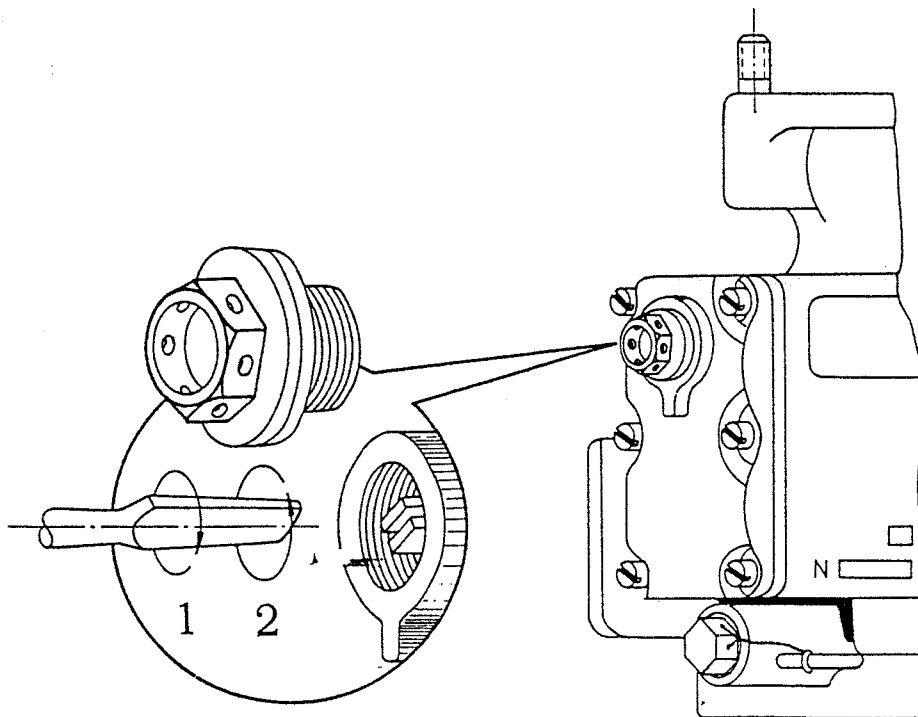

Fig. 7 Scheme of Adjusting the Main Needle
a. The fuel-air mixture ratio of the cruising regime can be adjusted by means of the main needle (Fig. 7).